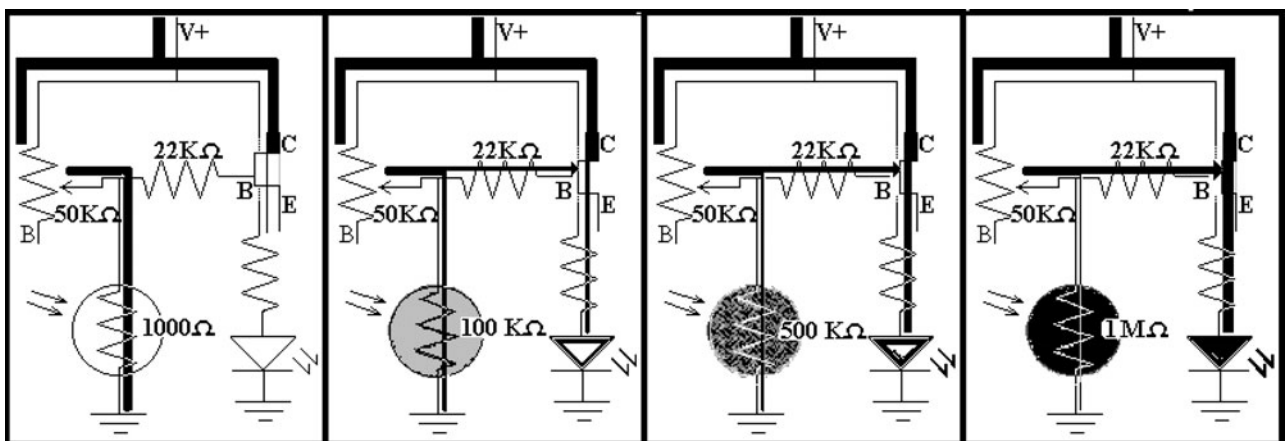

Figure L12-3
Figure L12-3 shows the movement of current and voltage in the circuit as the light changes. Remember the NPN transistor needs positive voltage to its base to turn on.
1. Set the pot so the resistance between legs A and C, the center leg, is close to 50 kilo-ohms. Figure L12-3 shows how the voltage and current move in the different conditions for this setup.